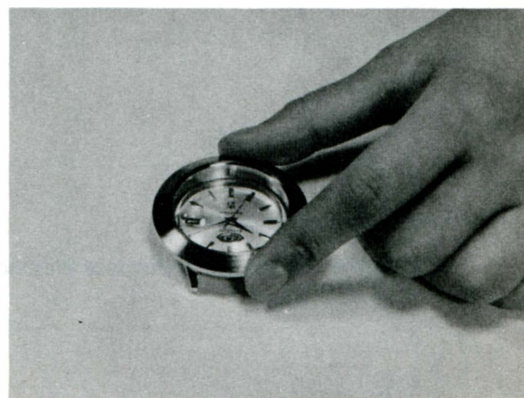

Fig. 5
- a. Set the lower endpiece of the appropriate O-Ring Setter on the top of the watchcase (Fig. 5).